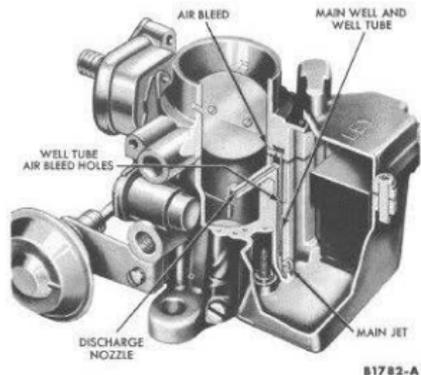

FIG. 15—Main Fuel System
**Main Fuel System.** As the throttle plate is opened, the idle system fuel flow diminishes and the main fuel system starts to function. As the car speed increases, the idle system cuts out entirely. The main fuel system consists of the main jet, air bleeds, and a main discharge nozzle. The air bleeds, one of which is in a well-tube, break up the liquid fuel as an aid to complete mixing with the air flow through the venturi. It also prevents siphoning when the engine is shut down (See Fig. 15).